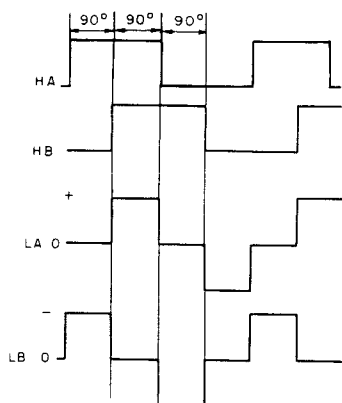

Fig. 4-12 Drive circuit waveforms
2. The position sensing signal produced by the Hall elements are each output to the block diagram position signal synthesizing circuit, and their waveforms are shaped as shown in Fig. 4-12.
3. The staircase waves are each input into the block diagram 4-phase drive circuit, and as shown in Fig. 4-12, LA and LB alternate back and forth in a  $90^\circ$  duty cycle (voltage) to turn the motor.